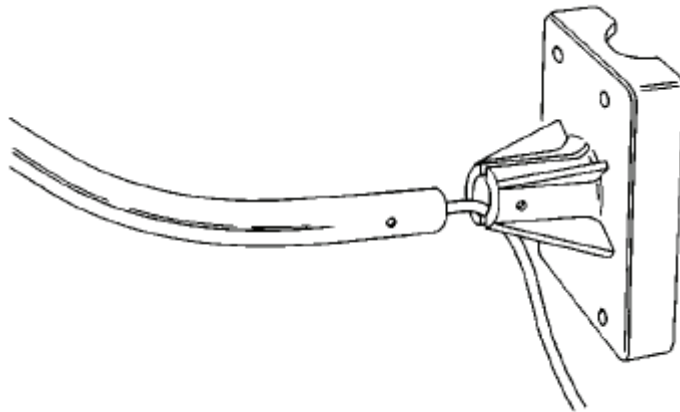

Figure 14: Inserting the anemometer arm to the base
- A. Insert the anemometer arm into the anemometer base. Guide the anemometer cable through the slot as you insert the arm (see Figure 14)